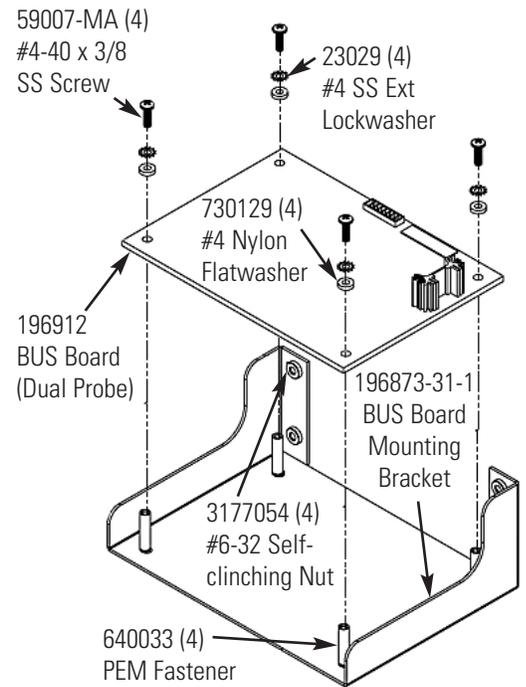

Figure 4. Board to Bracket
- Install the BUS control board onto the bracket supplied. Mount the bracket above the micro board with screws. Refer to Figure 4.